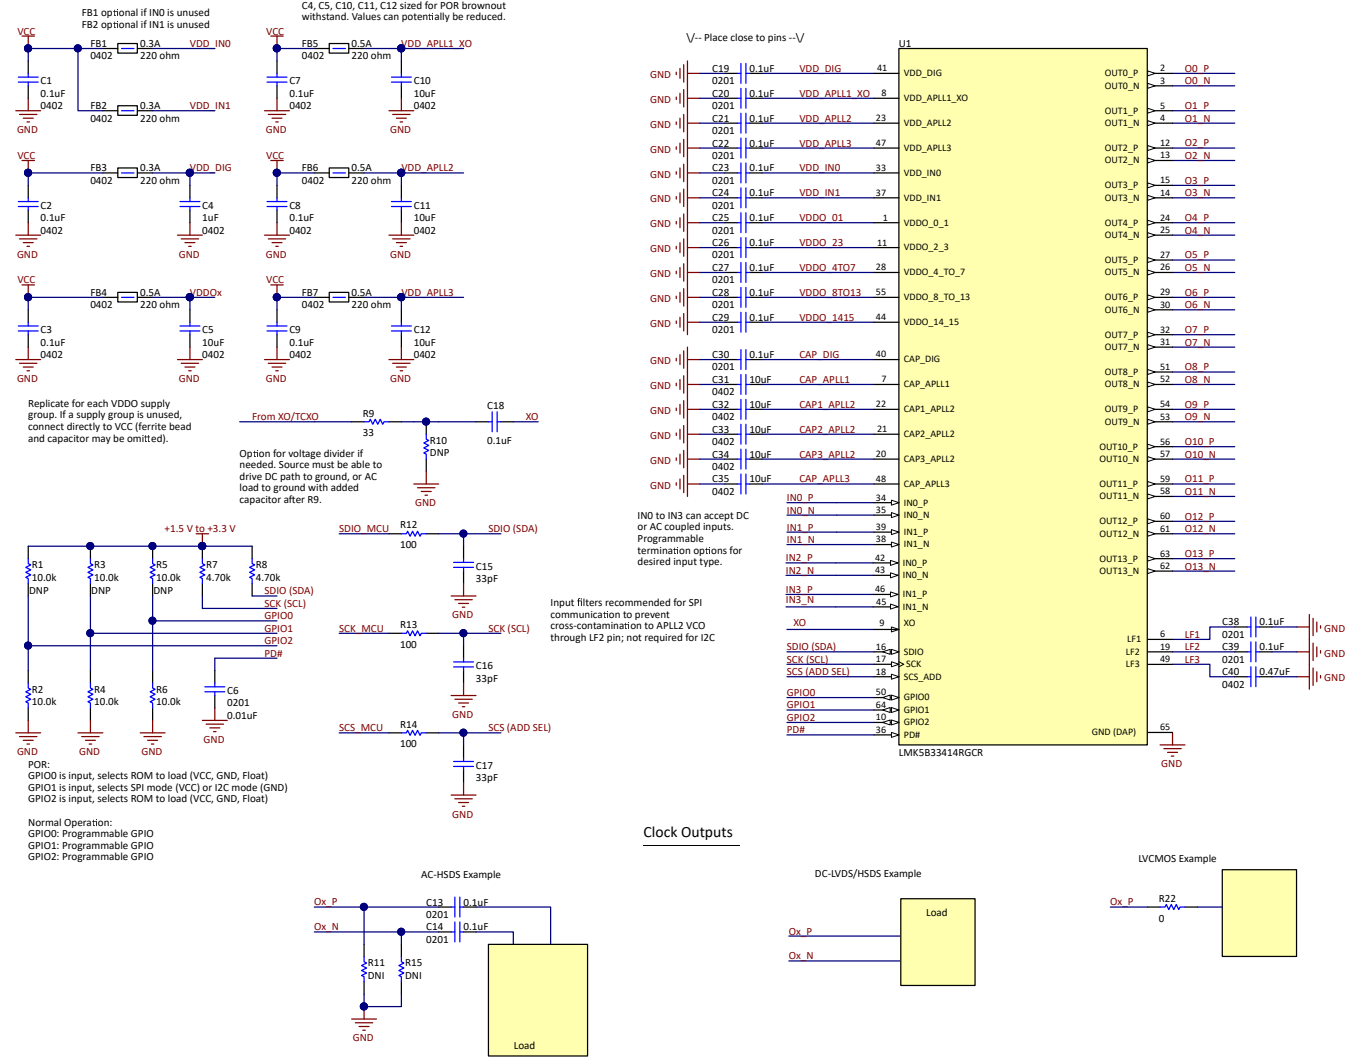

Figure 9-3. Reference Schematic Example
Figure 9-3 shows a reference schematic to help implement the LMK5B33414 and its peripheral circuitry. Power filtering examples are given for the core supply pins and independent output supply pins. Single-ended LVCMOS, LVDS, HSDS, LVPECL, and HCSL clock interfacing examples are shown for the clock input and output pins. An external CMOS oscillator drives an AC-coupled voltage divider network as an example to interface the 3.3-V LVCMOS output to meet the input voltage swing specified for the XO input. The XO pin of the LMK5B33414 can accept 3.3-V LVCMOS input. The required external capacitors are placed close to the LMK5B33414 and are shown with the suggested values. External pullup and pulldown resistor options at the logic I/O pins set the default input states. The I²C or SPI pins and other logic I/O pins can be connected to a host device (not shown) to program and control the LMK5B33414 and monitor its status.
- Reference inputs: Follow the LVCMOS or differential clock input interface examples in Figure 9-3 or Section 8.3.3.
- Clock output Interfacing: Follow the single-ended or differential clock output interface examples in Figure 9-3 or Clock Output Interfacing and Termination.